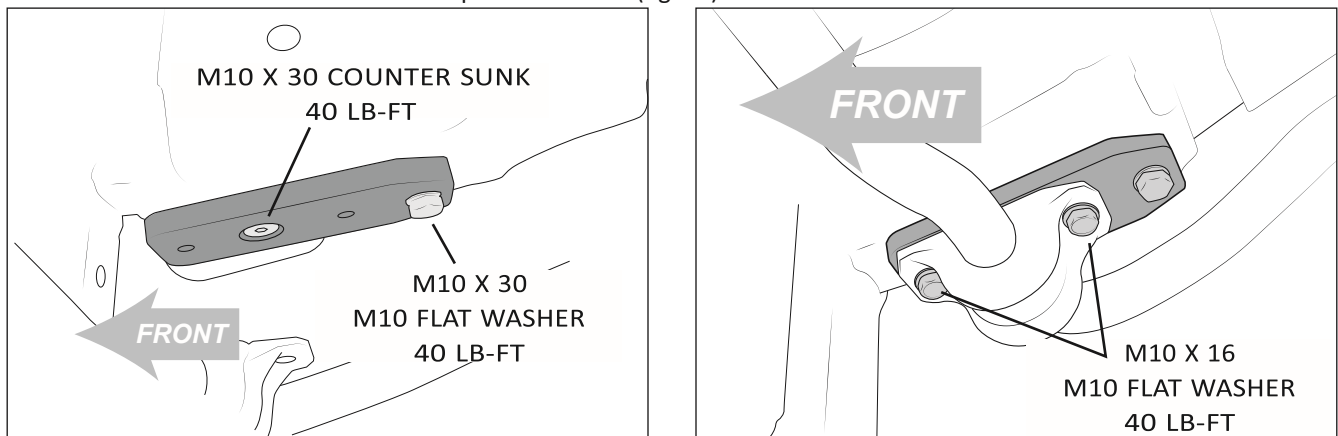

Figure 15
2. Install the sway bar relocation brackets using hardware bag #3 (fig. 15).